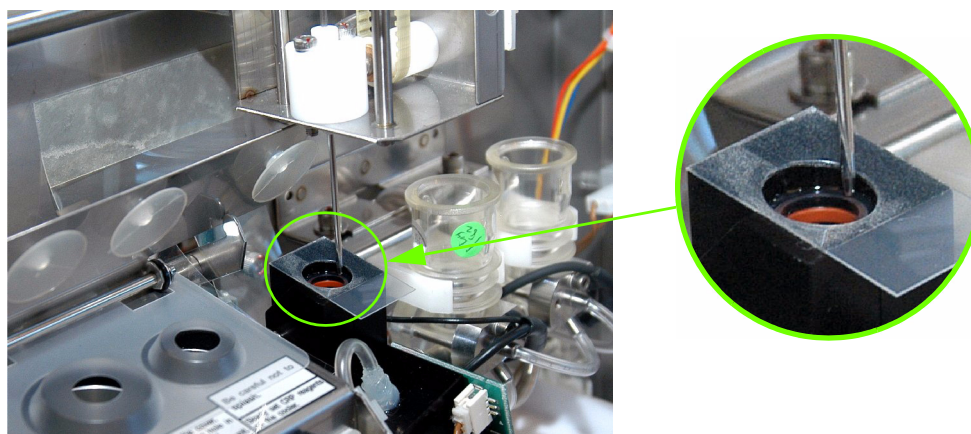

Fig.8: Needle on glass chamber
- ◆ Manually move on the right hand side the carriage and move down the needle until it touch the edge on the right hand side of glass chamber (See "Fig.8: Needle on glass chamber, page 6").